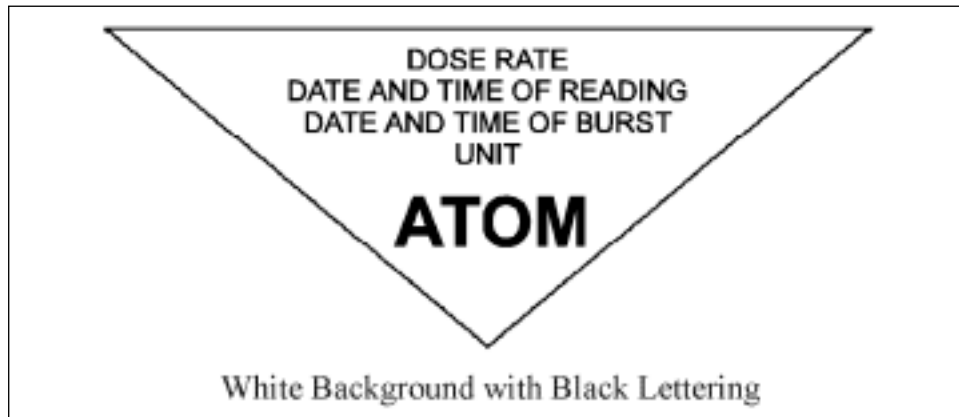

Fig 1-10. Radiological contamination markers.
c. Nuclear. Use this marker to designate areas contaminated with nuclear radiation (fig 1-10). Members of a survey team conducting a radiological survey place these markers. Specific readings, telling how much radiation is present, are necessary to determine the best location for the contamination markers. Remember you can use these markers for other areas such as disposal sites and equipment that has been so highly contaminated that they have been abandoned.